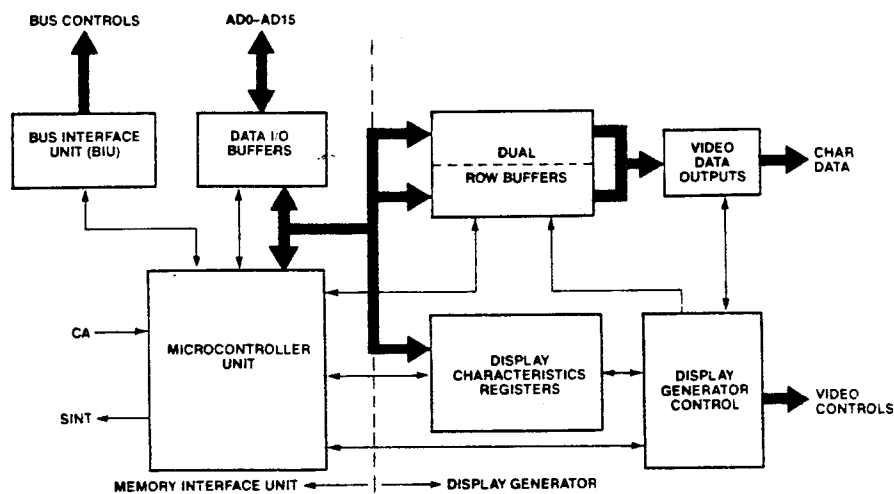

Figure 4: 82730 Block diagram.
Figure 4 shows a block diagram of the 82730. The chip is divided into two main sections. The Memory Interface Unit (MIU) and the Display Generator (DG). The MIU provides the communication between the 82730 and system processor and memory, while the DG acts on the display data and carries out the display operation.